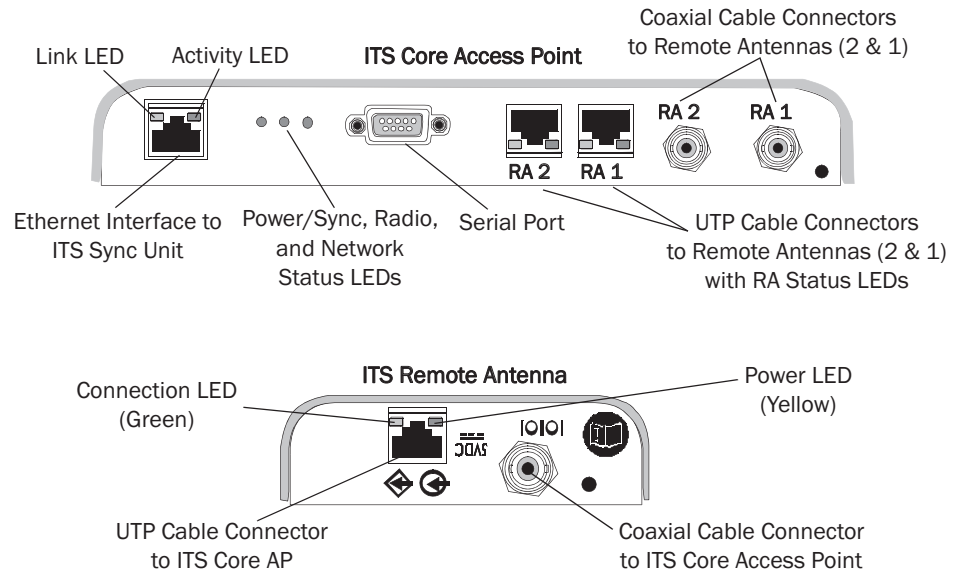

Figure 2-1: 1.4 GHz ITS Core AP and Remote Antenna Controls and Connectors
- a) Connect the first Remote Antenna to the Core AP using the UTP and Coaxial cable connectors labeled **RA 1** in Figure 2-1.
- b) Connect the second Remote Antenna to the Core AP using the UTP and Coaxial cable connectors labeled **RA 2** in Figure 2-1.